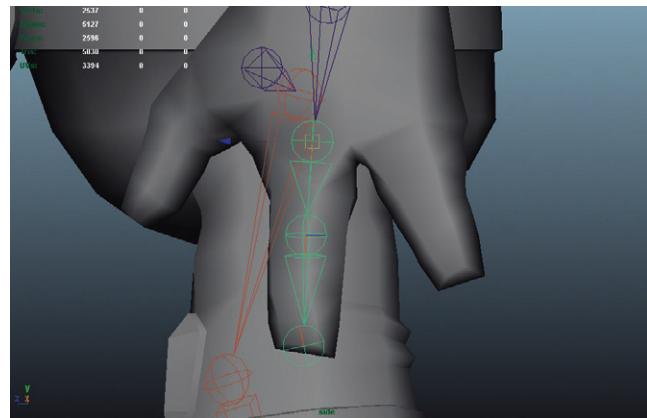

FIG 8.16 Continuing down the hand to the end of one finger.
Step 22: Create joints down the hand through the alien's pointer finger. Be sure to be adjusting in all the views to get them into the appropriate position (Fig. 8.16). Finally, now hit Enter to exit the Joint Tool.